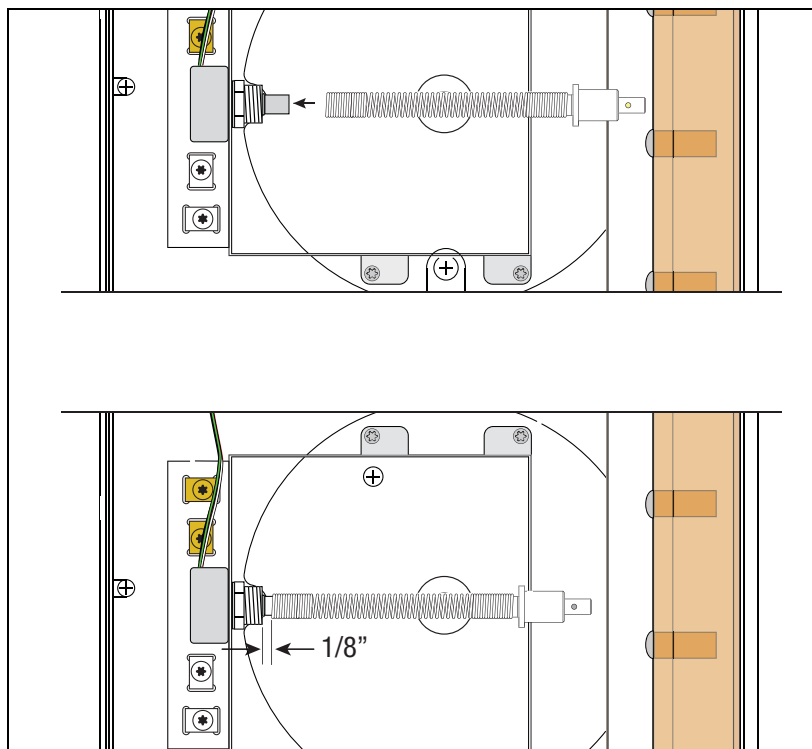

Figure B-3. Pushing Encoder Spring Onto Pulse Encoder Shaft
4. With the Encoder Spring/Input Shaft assembly in one hand, push the open spring end onto the pulse encoder's shaft. Work the spring onto the shaft until it is about 1/8" from the pulse encoder (Figure B-3).